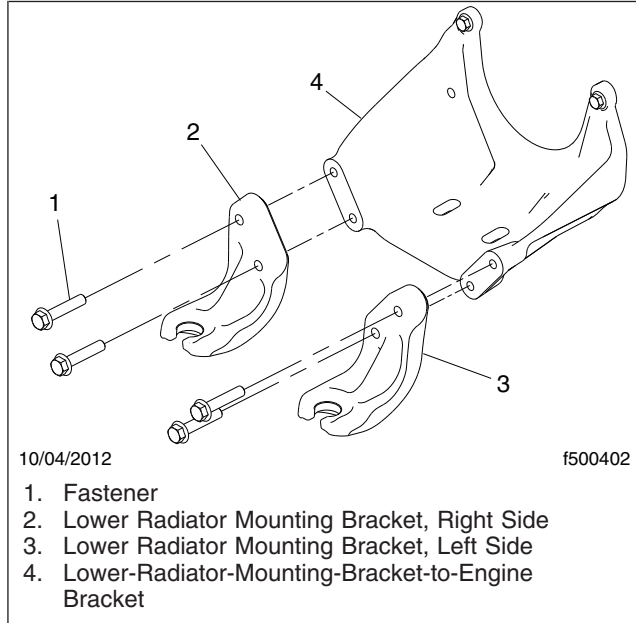

Fig. 6, Lower Radiator Mounting Brackets Installation
22. Install the lower radiator mounting brackets. See Fig. 6. Tighten 191 to 234 lbf-ft (260 to 317 N-m).